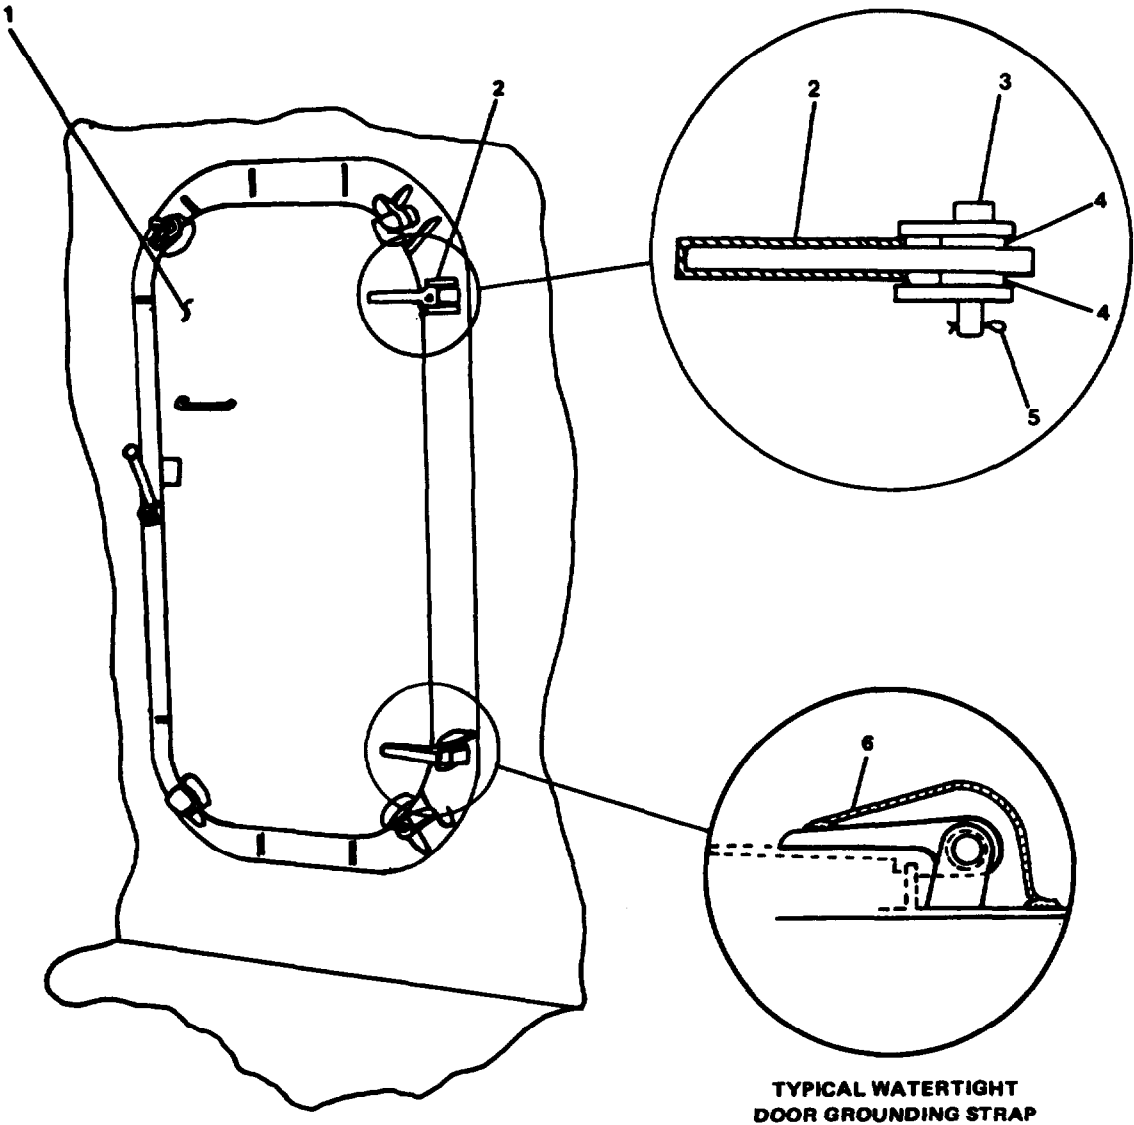

FIGURE 2-170. Replace Watertight Door. Four Dogs (30 x 51).
- a. Remove (if installed) grounding straps (6, FIGURE 2-170) from hinge blades (2) and from bulkhead.
- b. Open door (1).
- a. Place door (1, FIGURE 2-170) in position on frame.
- b. Install flat washers (4) and align holes.
- g. Install (if removed in Step a of removal procedure) grounding straps (6, FIGURE 2-170) to hinge blades (2) and to bulkhead.